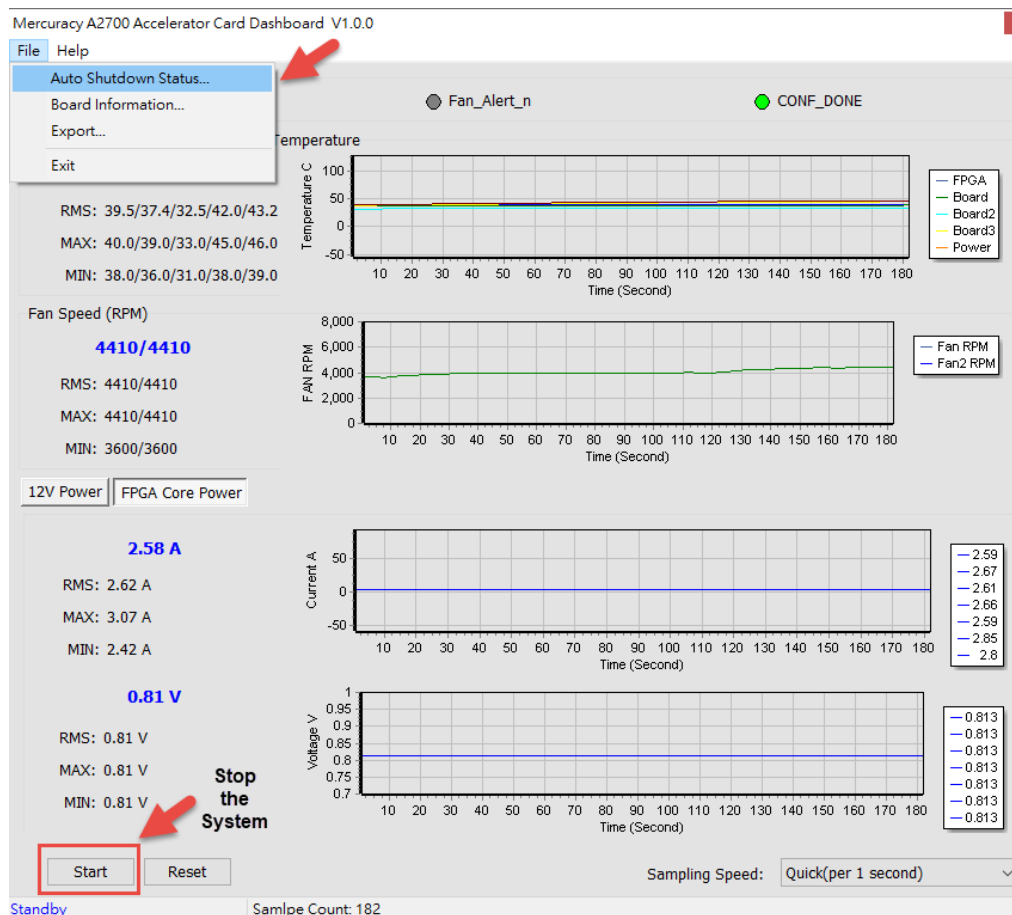

Figure 4-16 File Menu Options
- File Menu:** The user can click “File” menu at the top left of the GUI (See Figure 4-16) and some options such as board information and status export will appear. Note that to activate these functions, you will need to **stop** obtaining the board status (i.e. Don't Press “Start” button or Press “Stop” button) in the GUI. Detailed introductions of these functions are described in below.